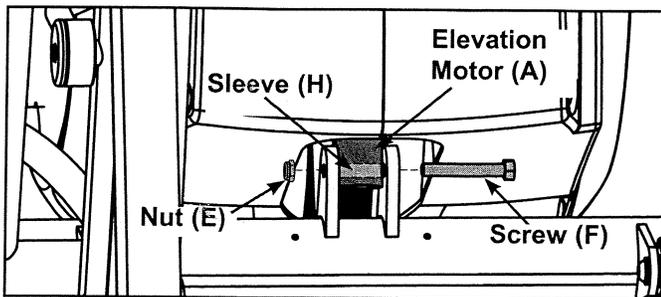

Figure 3
A. Using two 9/16" open-end wrenches, remove the screw, sleeve and nut, securing the elevation motor to the main frame. See Figure 3.
- A. Carefully tilt the front end assembly backward until holes in elevation motor (A) align with the holes in the support bracket on the main frame. See Figure 3.
- B. Using two 9/16" open-end wrenches, attach sleeve (H), screw (F) and nut (E) securing the elevation motor to the main frame. See Figure 3. **NOTE:** Make sure the sleeve is in place between the screw and nut.